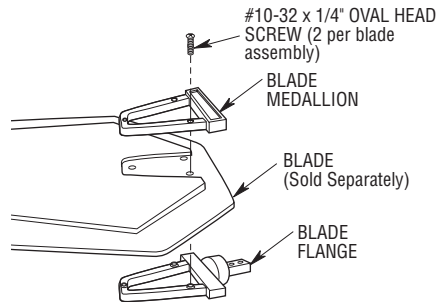

Figure 1
- 1. Position the blade medallion on top of the blade by aligning the raised bosses into the blade mounting holes. Carefully position the blade flange onto the bottom of the blade by aligning the bosses with the blade holes. Install three #10-32 x 1/4" oval head screws into the mounting holes of the medallion and tighten. Be sure the flange and medallion are aligned with the blade holes (Figure 1). If using wooden blades, be very careful not to over tighten the blade screws.